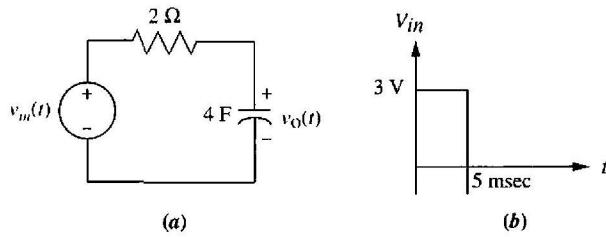

FIGURE P2.35
57. The circuit shown in Figure P2.35(a) is excited with the pulse shown in Figure P2.35(b).
(Hint: look at Item 5 in Table 2.2, the time shift theorem.) In the second approach the pulse is approximated by an impulse input having the same area (energy) as the original input. From Figure P2.35(b): $v_{in}(t) \approx (3 \text{ V})(5 \text{ msec}) \delta(t) = 0.015\delta(t)$. In this case, $V_{in}(s) = 0.015$. This approximation can be used as long as the width of the pulse of Figure P2.35(b) is much smaller than the circuit’s smallest time constant. (Here, $\tau = RC = (2\Omega)(4 \text{ F}) = 8 \text{ sec} \gg 5 \text{ msec}$.)